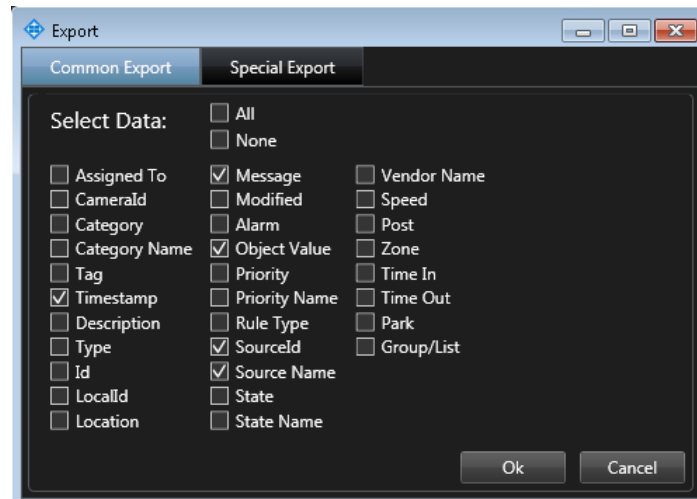

Figure 15
- **Common export** tab (Fig. 15) to select the parameters to be included into export for each event.